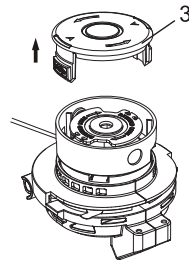

Fig. 11
2. While pressing both spool locking buttons, pull the spool cap (3) out of the spool housing (Fig.11).